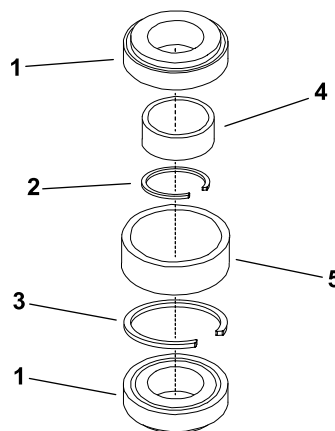

Figure 311
Note: A replacement spindle bearing set contains 2 bearings, a spacer ring, and a large snap ring (items 1, 2, and 3 in Figure 311). You cannot purchase these parts separately. Also, do not mix the bearing set components from one deck spindle to the another.
Note: A replacement bearing spacer set includes the inner spacer and outer spacer (items 4 and 5 in Figure 311). Do not mix the bearing spacers from one deck spindle to the another.
If you are replacing the bearings, ensure that you use the spacer ring that is included with a new bearing set (Figure 311).